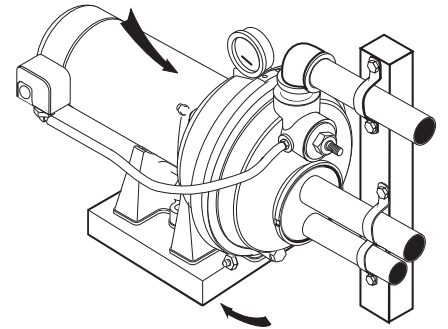

Figure 35
3. Replace bolts on pump face and tighten (See Figure 35).